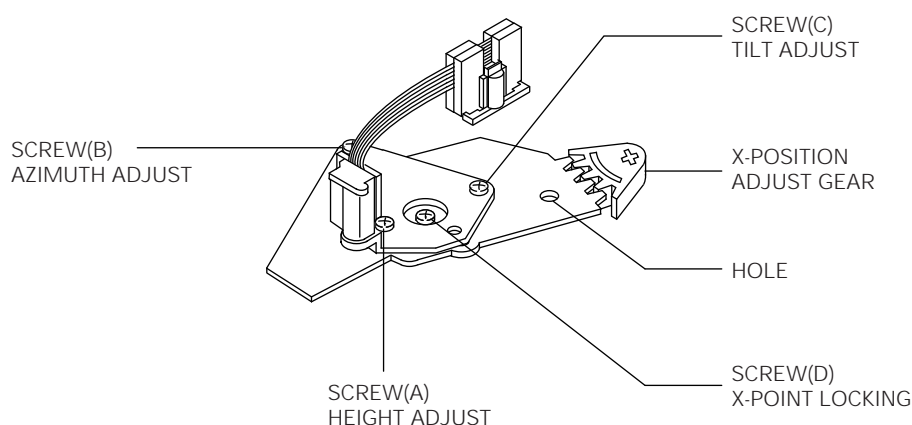

Fig. 2-3 Location of A/C Head Adjustment Screw
- 3) Turn screw (A), (B), (C) clockwise or counterclockwise until the gap of lower tape edge and the lower edge of the control head is about 0.25mm. (Refer to Fig. 2-3 and 2-4)
3. Adjust screw (B) to achieve maximum audio level. (See Fig. 2-3)